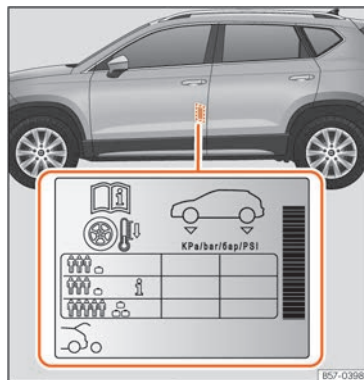

Fig. 218 Location of the tyre pressure sticker.
- Adjust tyre pressure to the load being carried by the vehicle » **Fig. 218**.
The tyre inflation pressures are listed on a sticker on the rear of the front left door frame »» Fig. 218.
Depending on the vehicle, tyre pressure can be adjusted to medium load to improve driving comfort (tyre pressure **i**) »» Fig. 218). When driving with comfort tyre pressure fuel consumption may increase slightly.
The tyre pressure must be adjusted according to the load the vehicle is carrying. If the vehicle is going to carry the maximum load, the tyre pressure should be increased to the maximum value indicated on the sticker »» Fig. 218.
In the case of a minimised temporary spare wheel (**j**), inflate to a pressure of 4.2 bar as indicated on the tyre pressure label »» Fig. 218.
ded tyre pressure is indicated on the label »» Fig. 218.
- **When the tyres are cold, tyre pressure should be that indicated on the label »» Fig. 218.**